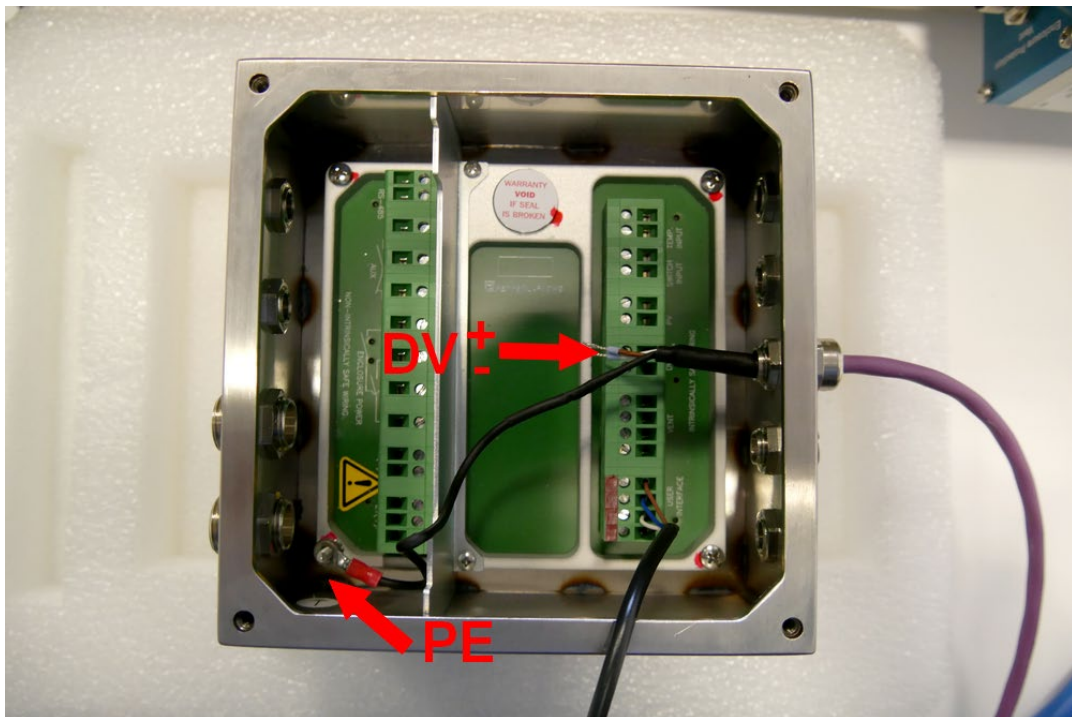
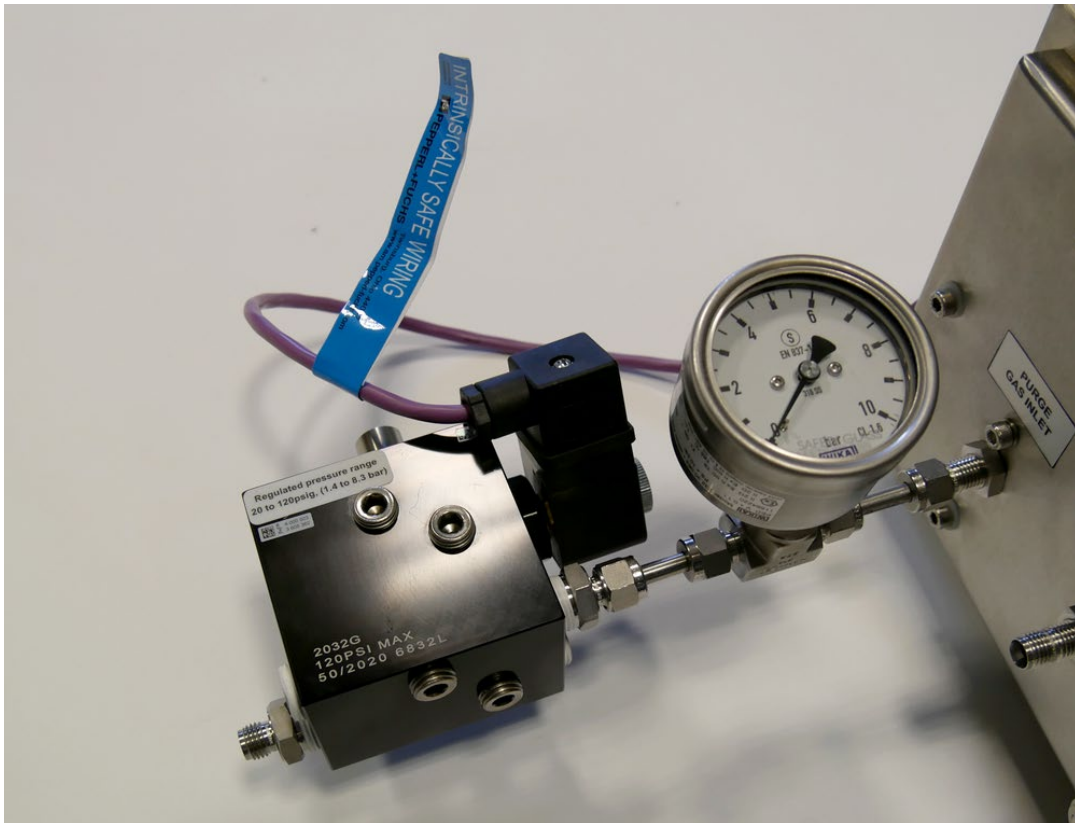

Figure 139. Manifold connectors – controller side.
Figure 140. Manifold installed.
3. Install the manifold block control signal cable (7) (3x1mm2 cable) between the 6500 “DV” terminals and the manifold block. Pass the cable through the cable gland on the manifold block and screw on the wires as shown on **Figure 139**.
5. Put the manifold control signal cable through M12 cable gland of the controller (**Figure 139**). After installation (**Figure 140**), affix the included blue stickers with the words “Intrinsically safe wiring” to both ends of the cable.